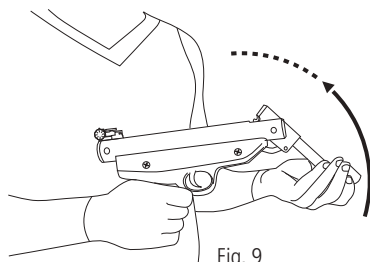

Fig. 9
- Bring the barrel to its fully closed position. (Fig. 9)